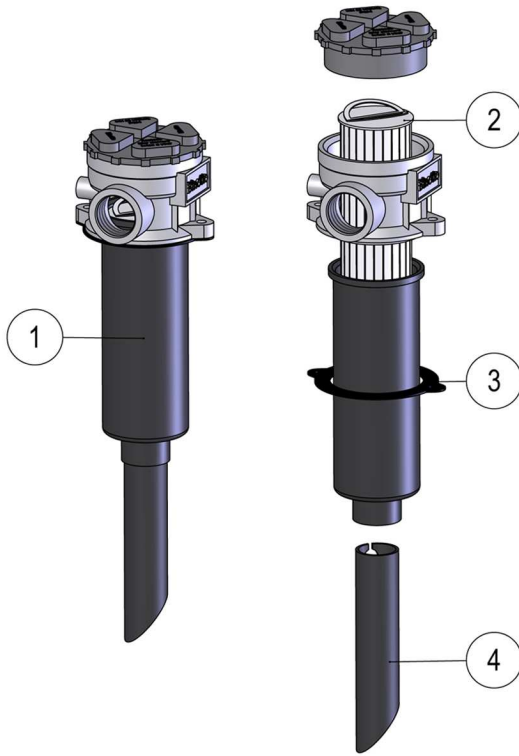

Fig.1
- 1.2 Click the extension pipe (see ref.4 of Fig.1) in the bowl of the filter unit;
- 1.4 Mount the flat rubber seal (see ref.3 on Fig.1) on the filter unit;